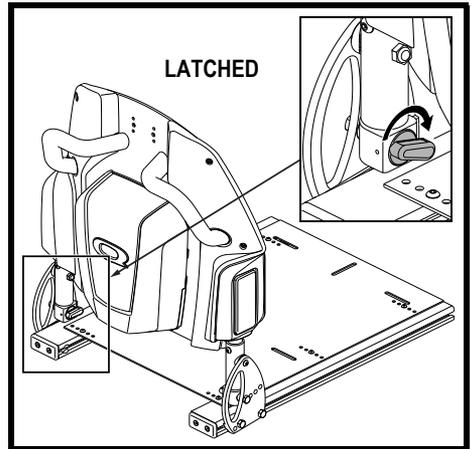

Figure 5. Flip-forward Back Canes (Latched)
2. Rotate the release lever on both back canes toward the front of the seat to latch the back canes. See figure 5. Ensure a red sticker on the release lever is not visible.